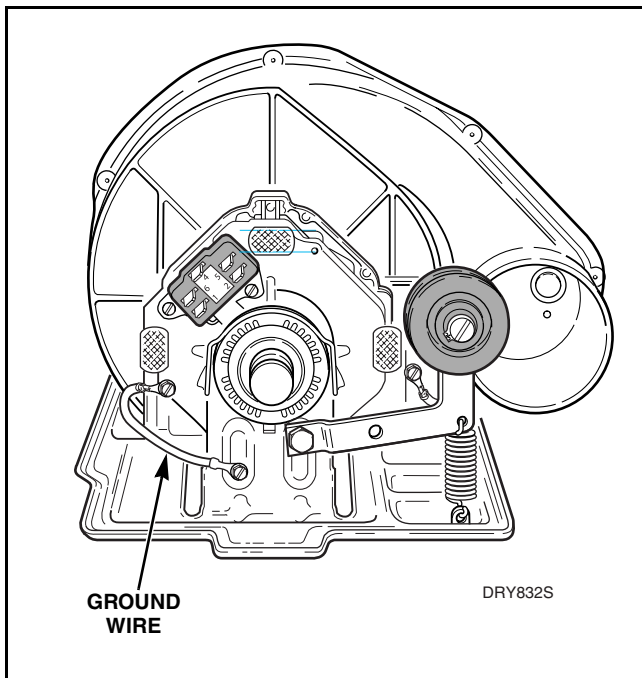

Figure 1
15. MOTOR MOUNTING BRACKET TO MOTOR Refer to *Figure 1*